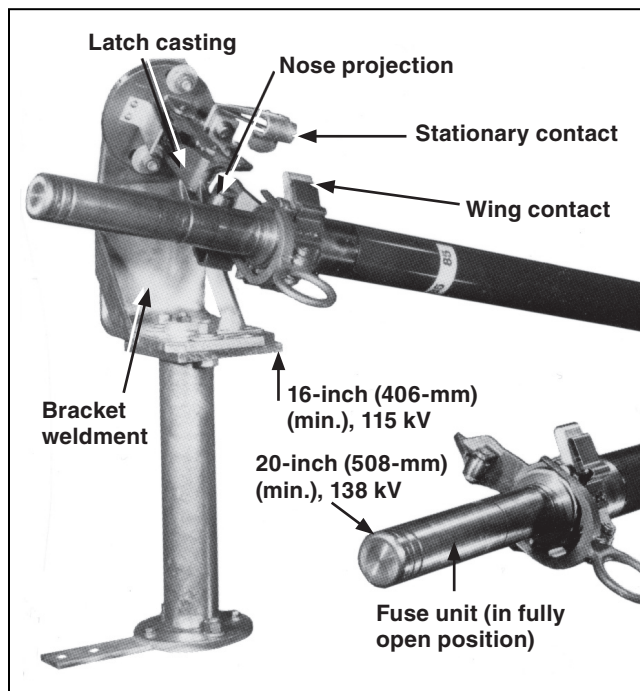

Figure 4. Minimum open-gap clearance, and correct lineup of nose projection with latch casting—upright and pedestal style mounting.
STEP 7. A coating of NO-OX-ID® “A” Contact Lubricant (available from Sanchem, Inc.), was applied to the stationary-contact surfaces of the latch-and-upper-contact assembly and hinge-and-lower-contact assembly at the factory. (See Figure 4 for the relative location of these surfaces on the latch-and-upper-contact assembly.) Verify the presence of this oxidation-inhibiting grease and that it is still free of contaminants. If necessary, clean the contact surfaces with a nontoxic, nonflammable solvent and apply a coating of NO-OX-ID “A Special” grease or similar nonmetallic-filler oxidation-inhibiting grease.
Loosen the nuts on the two bolts that secure the hinge casting to its bracket weldment. Bring the fuse-unit assembly toward the **Closed** position, but do not engage the latch. Raise the upper end of the fuse-unit assembly above the center line of the latch-and-upper-contact assembly. Hold the fuse-unit assembly in this position and tighten the nuts loosened previously. Then, with the fuse-unit assembly supported by the hinge-and-lower-contact assembly, check to be sure the nose projection on the upper end fitting makes contact with the latch casting approximately on center. See Figure 4 on page 9. Readjust if necessary.
Again bring the fuse-unit assembly toward the **Closed** position and check that the wing contacts mate squarely with the stationary contacts. See Figure 4 on page 9. If necessary, loosen the mounting bolts that secure the latch casting to its bracket weldment and rotate the latch casting as required to obtain correct contact engagement. Tighten the mounting bolts just enough to hold the adjustment. When this adjustment is properly made, the wing contacts of the fuse-unit assembly will mate squarely with the contoured surfaces of the stationary contacts as the fuse-unit assembly approaches the **Closed** position.
- STEP 4.** Place the fuse-unit assembly into the mounting in the **Open** position. On upright or pedestal style mountings, move the latch lever, located on the hinge-and-lower-contact assembly, to the **Closed** position. With the fuse unit in the fully **Open** position, check that there is a clearance of at least 16 inches (406 mm) (115-kV mountings) or 20 inches (508 mm) (138-kV mountings) between the release tube of the fuse unit and the pedestal supporting the upper-contact assembly, as illustrated in Figure 4 on page 9. In no event, however, should the clearance be more than 6 inches (152 mm) greater than the minimum value specified. If necessary, readjust the live parts to obtain the proper open-gap clearance, taking care to maintain adjustments made in Steps 1, 2, and 3. Also make sure no circuit conductors encroach upon these open-gap clearances after electrical connections have been made to the mounting. Next, move the fuse-unit assembly to the **Closed** position to check the latching performance of the fuse. Check for proper latching by pushing on the fuse-unit assembly at the upper ferrule to bring the fuse-unit assembly against its stop. Then, release. Definite resilience should be felt.
STEP 4. *Unused Fuse-Unit End Fittings:* A coating of NO-OX-ID® “A” Contact Lubricant was applied to the wing-contact surfaces of the upper end fitting and lower end fitting at the factory. For the relative location of these surfaces on the upper end fitting. See Figure 4 on page 9. Verify the presence of this oxidation-inhibiting grease and that it is still free of contaminants. If necessary, clean the contact surfaces with a nontoxic, nonflammable solvent and apply a coating of NO-OX-ID “A” Contact Lubricant or similar nonmetallic-filler oxidation-inhibiting grease.